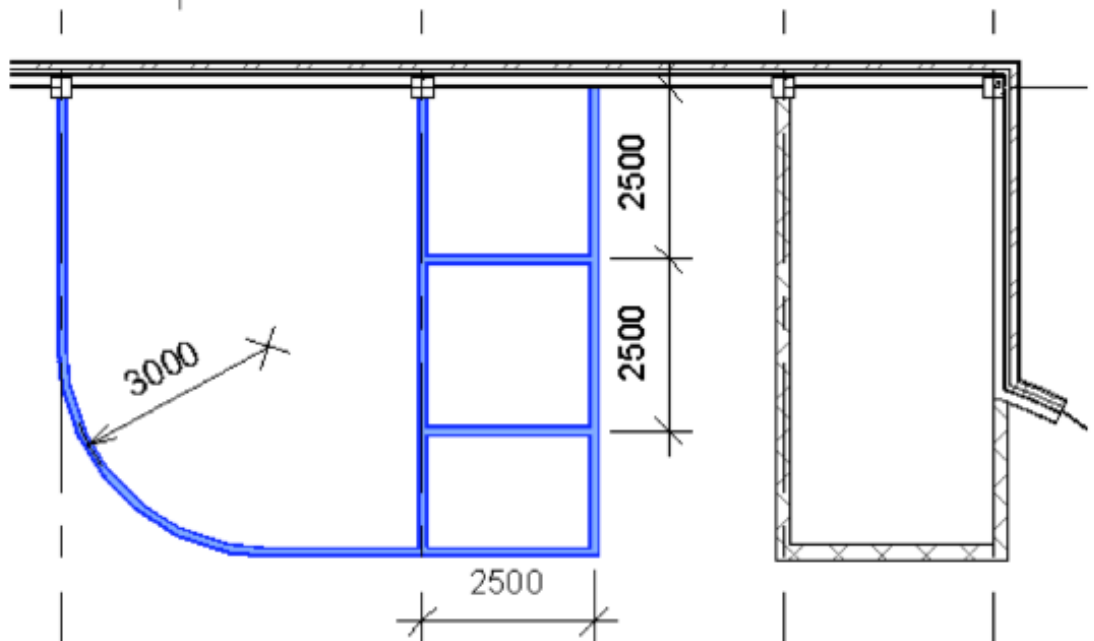

Figure 4-29
1. Pan over to the other stairwell and add the walls shown in Figure 4-29. Use the same wall type and properties as the other main interior walls.